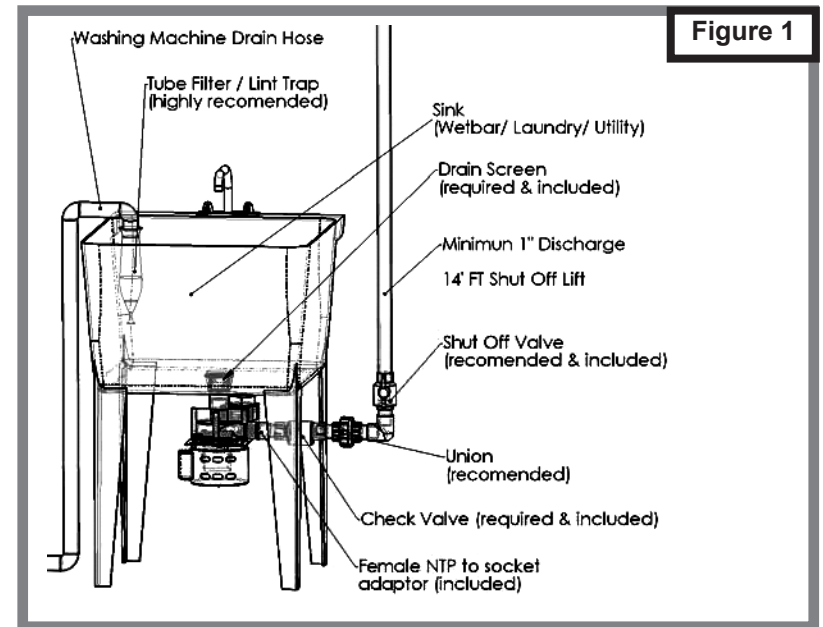

Figure 1
2. Install discharge piping as shown in Figure 1.
- a) **1" piping and valves** are recommended; however 3/4" piping and valves may be substituted in installations where lift requirements are less than six (6) feet, or approximately one half of the pump's maximum lift.